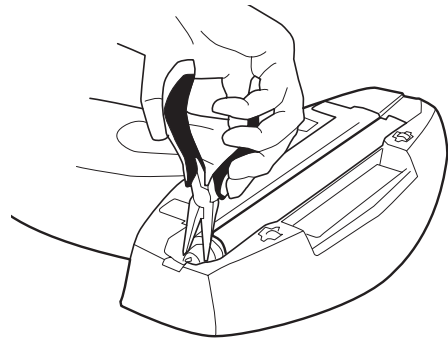

Figure 9
4. Using a small pair of needle-nosed pliers at one end of the bulb, rotate the bulb 90 degrees and remove. (See Figure 9.)